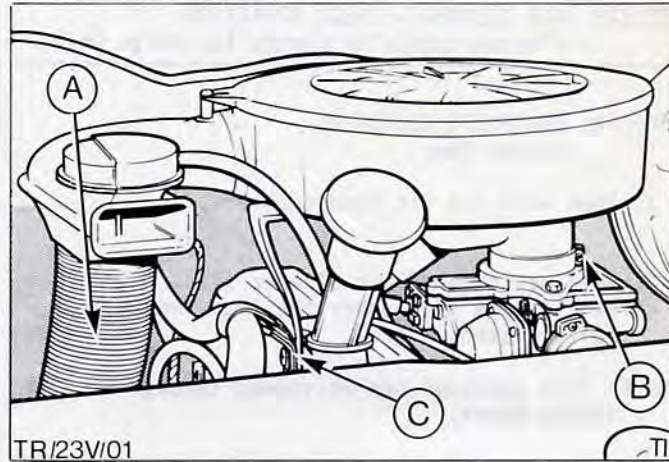

Fig.36. Air cleaner assembly.
3. Remove one bolt and loosen securing clamp, Fig.36, disconnect cleaner to manifold air hose and lift air cleaner assembly clear of carburettor.